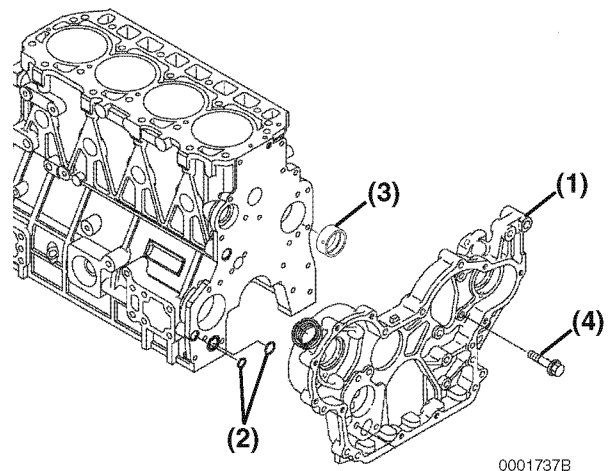

Figure 6-98
- Remove the bolts (**Figure 6-98, (4)**).
- Remove the gear case (**Figure 6-98, (1)**) or front plate from the cylinder block. Thoroughly clean all old sealant from the mating surfaces.
- Inspect and measure the camshaft bushing. See *Camshaft* on page 6-9 for the service limit. If damaged or worn beyond service limits, remove the camshaft bushing (**Figure 6-98, (3)**).
- TNV94 - TNV106:** Remove two O-rings (**Figure 6-98, (2)**).